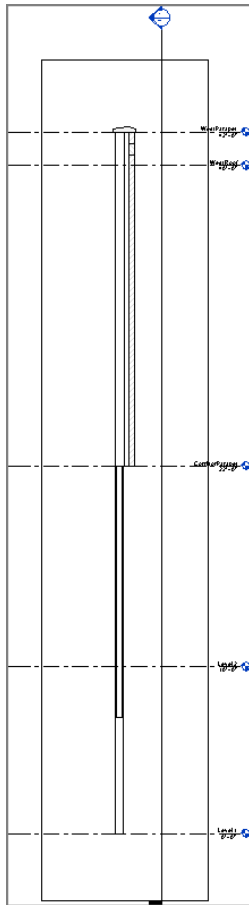

FIGURE 3.55: The finished wall section
10. Change the detail level to Fine. Your section should look like Figure 3.55.